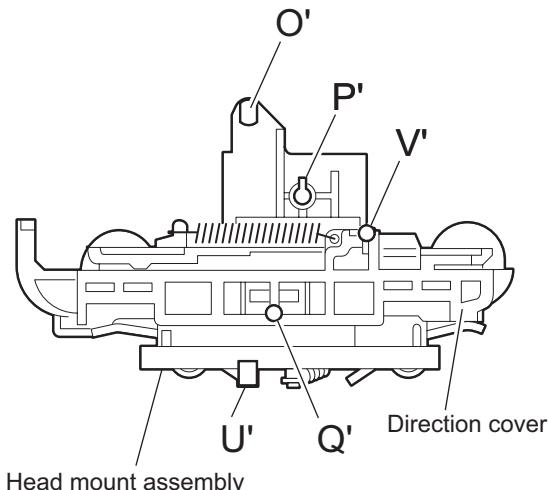

Fig.11
### 3.4.6 Reattaching the Play/ Record & Clear head (See Fig.11~13)
(1) Reattaching the head mount assembly.
- Fit the bosses O', P', Q', U' and V' on the head mount assembly to the holes P and V, the slots O, U and Q of the mechanism sub assembly (See Fig.11 to 13).